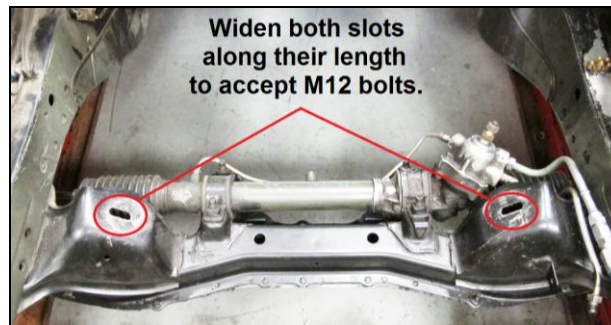

Figure 4
13. Using a manual or air powered rotary file, slightly widen the slots in the engine cross member, that accept the studs of the engine mounts, until M12 fasteners will pass through the length of the slots (Figure 4). This modification will provide a needed strength upgrade over the M10 studs of the stock engine mounts.